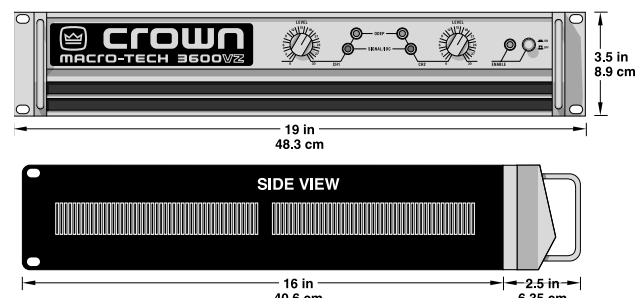

Figure 2.2 Dimensions
**Dimensions:** 19 inch (48.3 cm) standard rack mount (EIA Std. RS-310-B), 3.5 inch (8.9 cm) height, 16 inch (40.6 cm) depth behind mounting surface and 2.5 inches (6.4 cm) in front of mounting surface (see Figure 2.2).